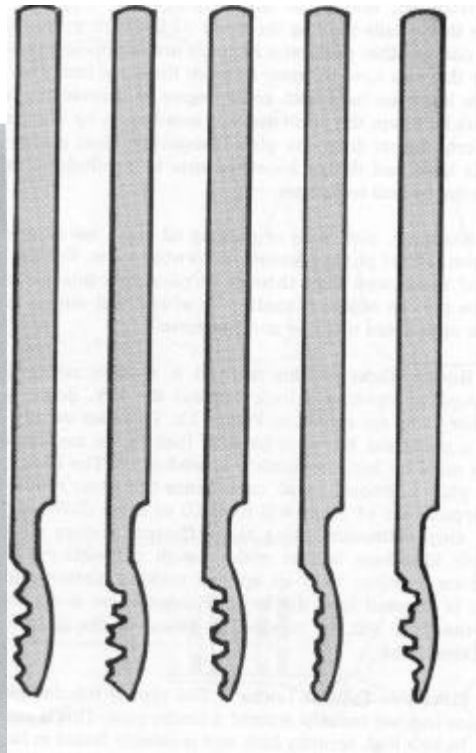

fig 15
**Rocker Picks** - This method is another rather hybrid method of opening a lock without the key. Some typical rocker picks are shown in Figure 15. These are usually made for a particular brand or type of lock as the random depth cuts must be fairly accurately spaced apart. The back side of the pick is ground to an oval; hence the name rocker pick. A typical set of these will have 10 or more different picks, the only difference being the different random cuts. The whole idea here is that with enough different cut combinations together with an applied rocking motion once the tool is inserted into the keyway, somewhere along the way all the pins will, by chance, be raised to the shear line at the same time.